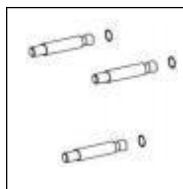

Fig.2.
- 2). Insert the included three Expansion Bolt (1) into the drilled mounting holes. You may need to use a hammer to secure them through the holes. See the (Fig.2.)